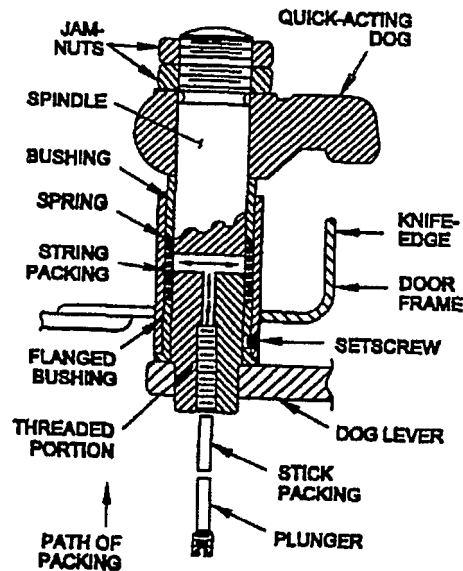
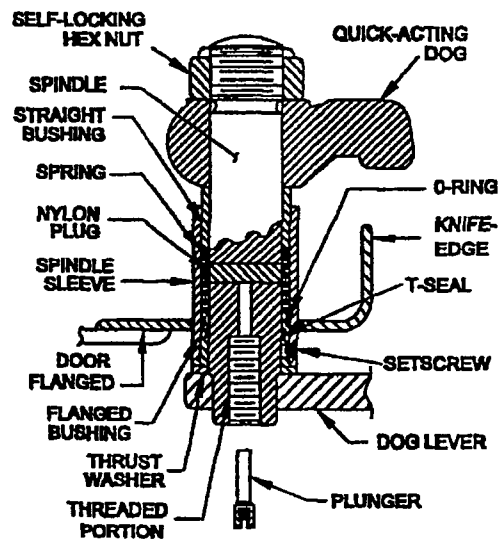

Figure 600-2.10. Quick-Acting Door Dog Assembly (Cross Sectional View)
Figure 600-2.11. Quick-Acting Door Dog Lever Assembly (Cross Sectional View) Modified by MACHALT 167-31004 (ECP-444)
Ensure the straight bushing is firmly seated against the back of the dog and is free of dirt, corrosion, and paint. Ensure the flanged bushing is firmly seated against the end of the dog sleeve and is secured in place by its dog point setscrew. See figure 600-2.10. Setscrews are often painted over and may be difficult to locate. Remove paint as necessary to inspect for loose, missing, or broken setscrews. For self-lubricated bushings, there should be a CRES thrust washer between the dog lever and the face of the flanged bushing. See figure 600-2.11.
- i. Ensure both jamnuts or self-locking hex nuts are in place on each dog assembly. Jamnuts should be locked tightly together. Remove any paint or dirt from the bushings with a wire brush and a clean rag. The straight bushing should not be stuck in the spindle sleeve and should rest against the back of the dog. If the bushing is jammed or stuck in the sleeve, bushing must be removed and the interior of the sleeve cleaned out and lubricated to ensure a free sliding fit. See figure 600-2.11.